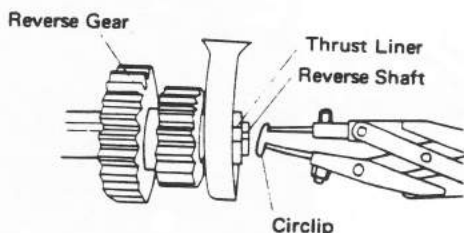

Fig. 10
9. Remove the reverse shaft circlip with a special tool (S-0, SNAP RING PLIERS). Unscrew the transmission case locating bolts and strike the reverse shaft, and the reverse shaft can be pulled backward (Fig. 10).